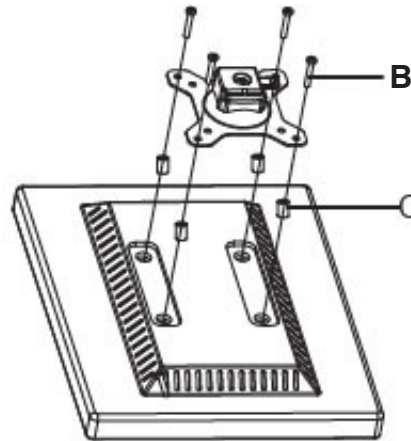

Figure 3B - Recessed/Curved Back Display Surface
2. For Recessed or Curved Back display surface place **Spacer (C)** between the faceplate and display and install **M4x30 Bolt (B)** through the faceplate into the display's mounting holes, see **Figure 3B**.